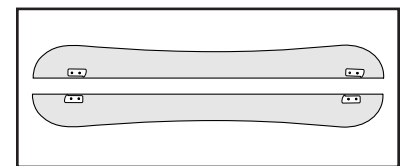

FIGURE 14
3.) With straight edge of board halves on the inside, pivot the interlocking hooks onto the board so they are clear of the edge of the board half. (See Figure 14)